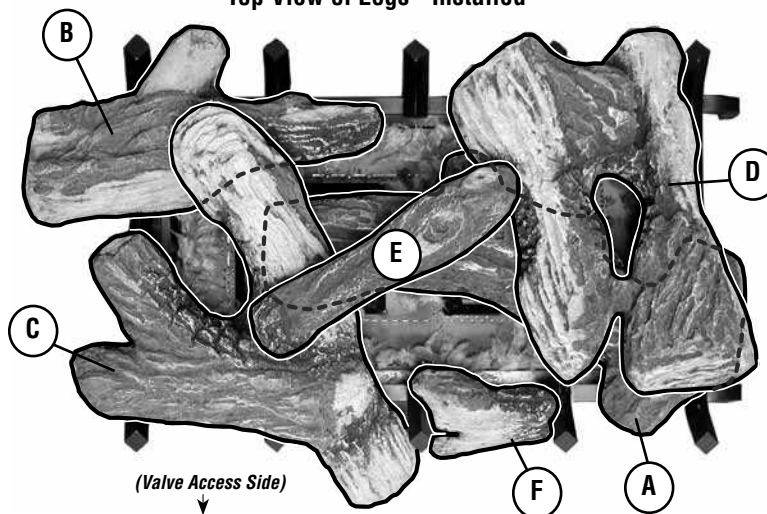

Figure 54
5. **Placement of Glowing Embers** - Separate the Embers (rockwool) into pieces about the size of a quarter (see **Figure 54**). Keep the pieces fluffed up, not matted. Distribute these pieces over the surface of the burner, as shown in **Figure 58**. Do not use more than is necessary. Ensure that the main burner ports remain uncovered by the ember material.